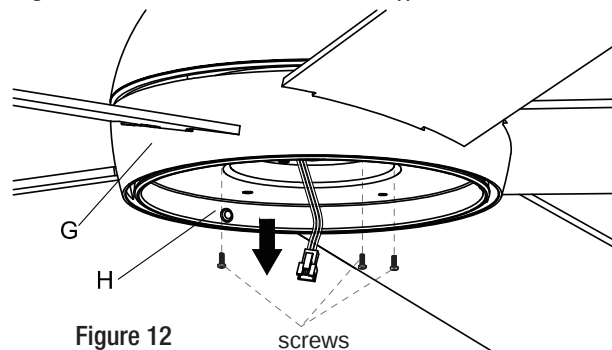

Figure 12
- Remove 3pcs pre-installed screws from the inside of the light kit pan (H). Figure 12.